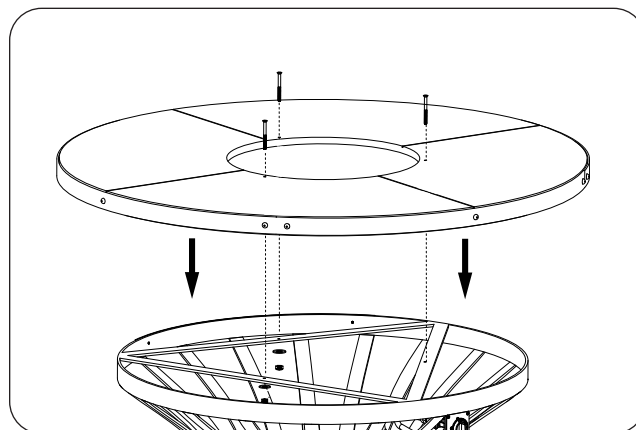

Fig. 34-3 Place top and fasten
4. **CAREFULLY** place the top on the unit, ensuring that the holes in the top piece align with the holes found in the bracket below (see Fig. 34-3).
5. Use a flathead screwdriver and the supplied bolts (3), nuts (3), and washers (3) to fasten the top to the bracket as shown in Fig. 34-3.